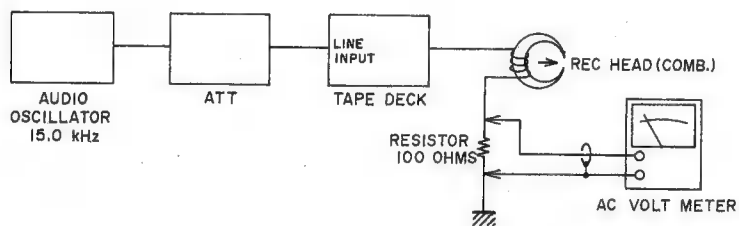

Fig. 15 Instruments Connections
10. Stop recording Bias Oscillator while making Rec Peaking Adjustment. (Refer to Figs. 15, 16)